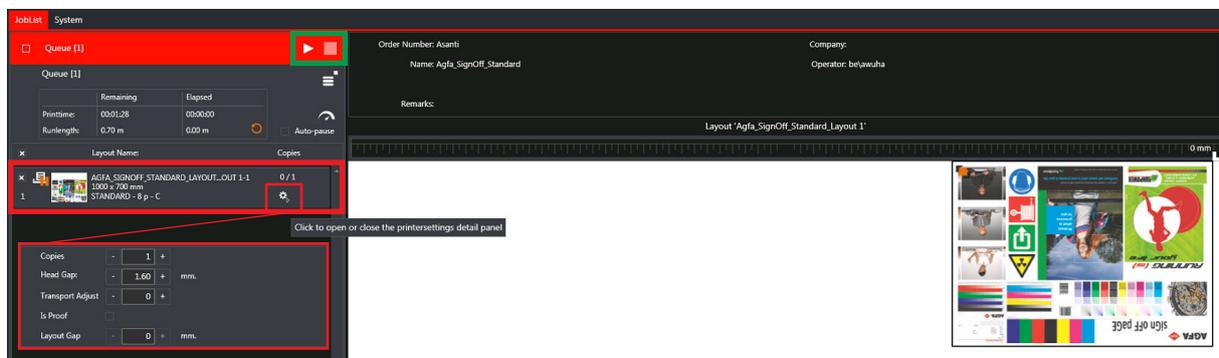

Fig.5-19: Prepare Print Button - Manual Mode
- Step 8: Select the proper job in the queue list (outlined in red in Fig. 5-19) and click the prepare print button (outlined in green in Fig. 5-19) to drop down the set bar.